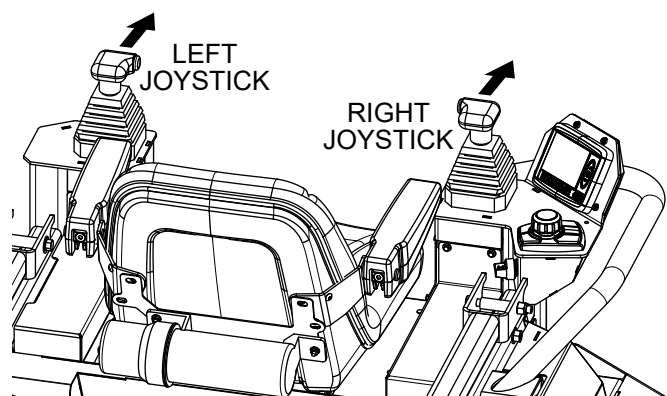

Figure 47. Joysticks (Forward)
2. Push both the left and right joysticks forward (Figure 47).